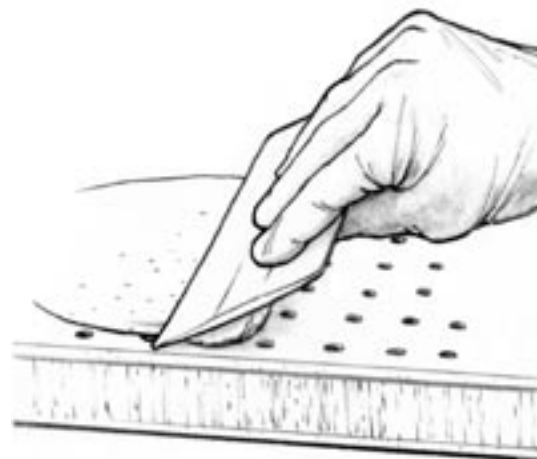

Figure 5-4 Fill any remaining voids and fair the surface with an epoxy/407 mix.
6. Sand the surface and fill any remaining holes with an epoxy/407 Low-density Filler mix, thickened to the consistency of peanut butter (*Figure 5-4*). After the epoxy has cured thoroughly, sand the surface fair and finish as described in Section 2.